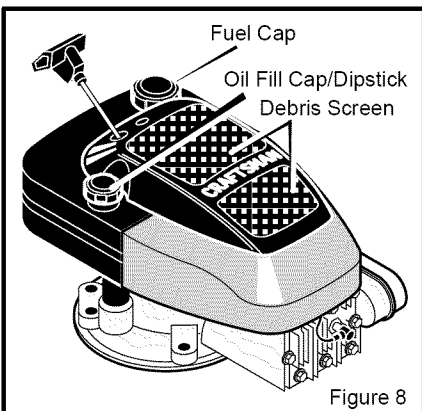

Figure 8
2. Remove the oil fill cap/dipstick shown in Figure 8.
1. Before each use, remove debris from the **debris screen** shown in Figure 8. Debris can cause the engine to overheat. Wipe the **debris screen** with a cloth or paper towel.